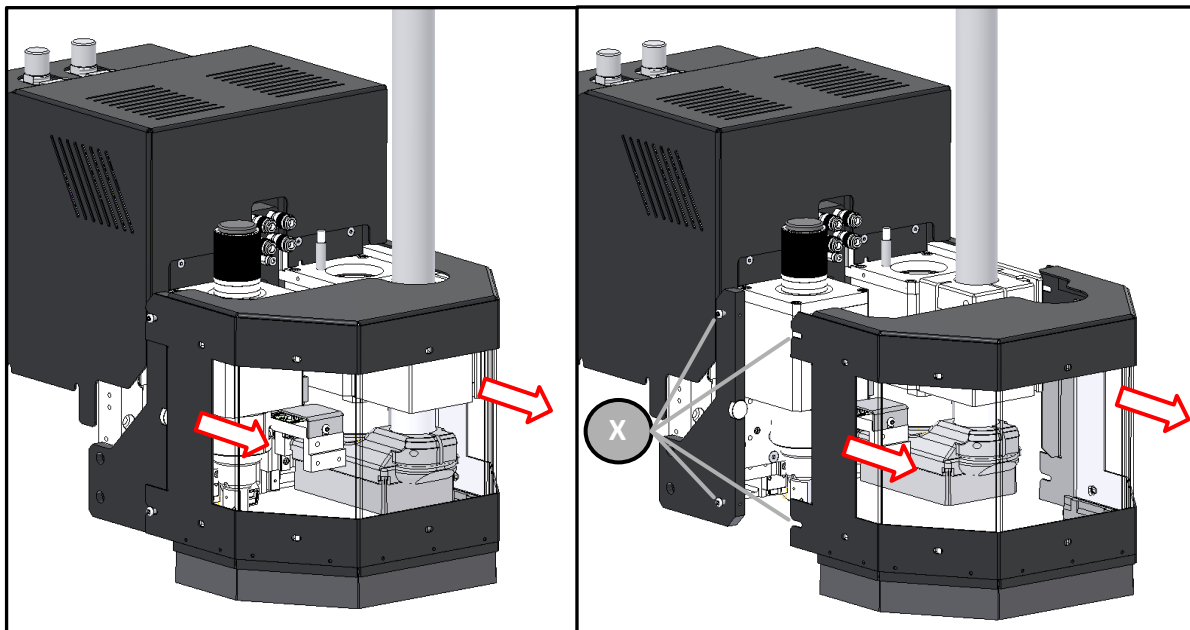

Figure 5-28
Attention: before running any job, always mount the safeguard protection on the machine. For correct alignment please make sure the side slots match with the reference screws (X) (Figure 5-28) and that the magnets have been engaged (DO NOT tighten the screws).